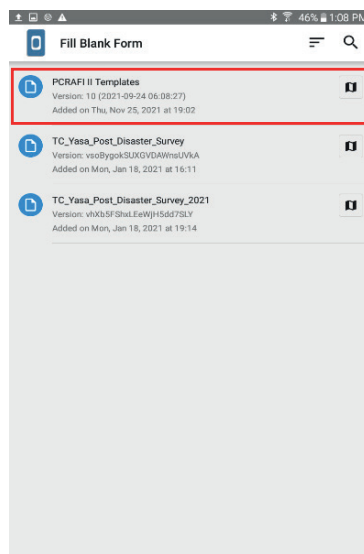
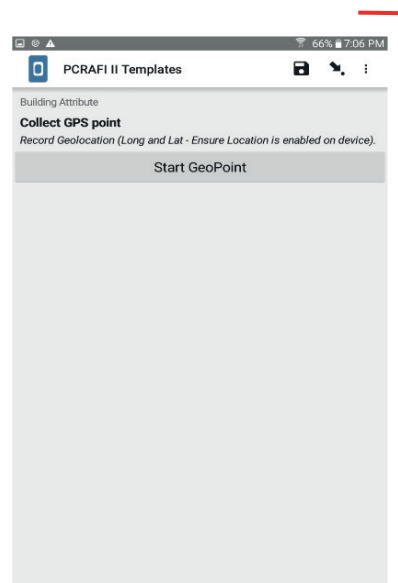

Figure 39: KoboCollect - Selecting Blank Form
Figure 40: Default-first attribute in Template opens
2. Select “PCRAFI II Templates” and click on “Get Selected” at the bottom of the page. (Figure 39) (Note: Kobo will automatically open the first template which is the “Building Attribute” template: Collect GPS point – Figure 40)